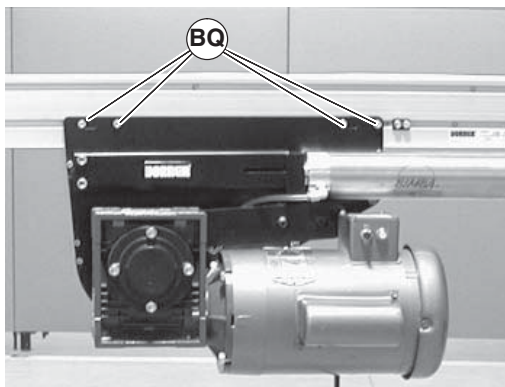

Figure 42
2. If necessary, adjust the tracking cam: loosen the center drive fastening screws (Figure 42, item BQ) on the side of center drive to be tracked.
4. Tighten the center drive fastening screws (Figure 42, item BQ) to 146 in-lbs (16.5 N-m).